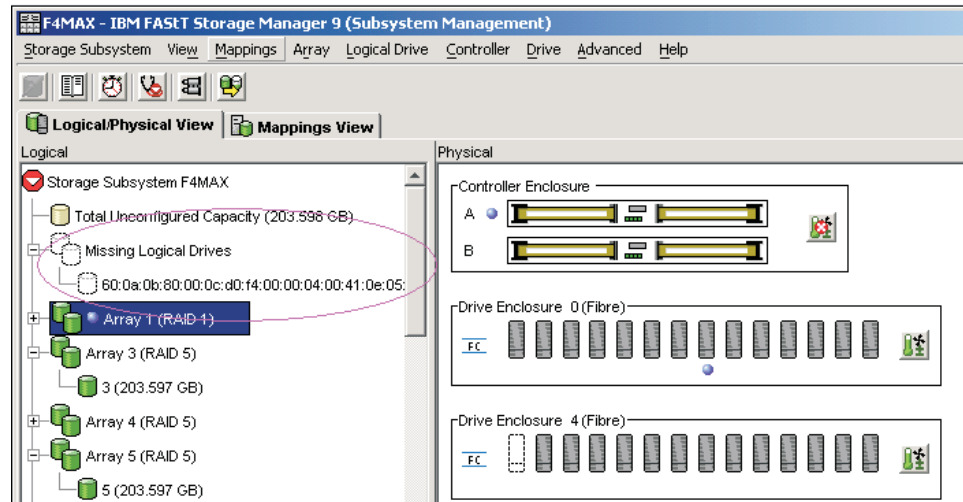

Figure 25. Subsystem Management Logical/Physical View of missing logical drives (controller firmware before 7.xx.xx.xx)
- If the controller firmware is earlier than 7.xx.xx.xx, wait for DS Storage Manager to mark the arrays/logical drives as missing in the Storage Subsystem Management window. See Figure 25 on page 69.